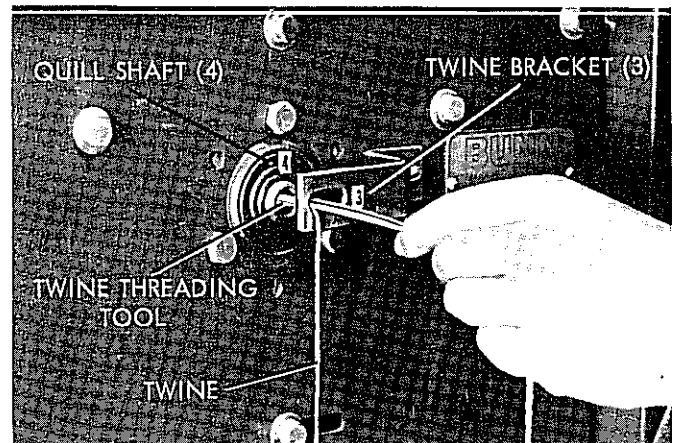

Figure 17. Threading Twine Bracket and Quill Shaft
10. Position twine in crotch of twine threading tool with approximately 1 foot of loose twine folded back. Insert twine threading tool through twine bracket (labeled no. 3) and completely through quill shaft labeled no. 4 (figure 17). Remove twine threading tool.